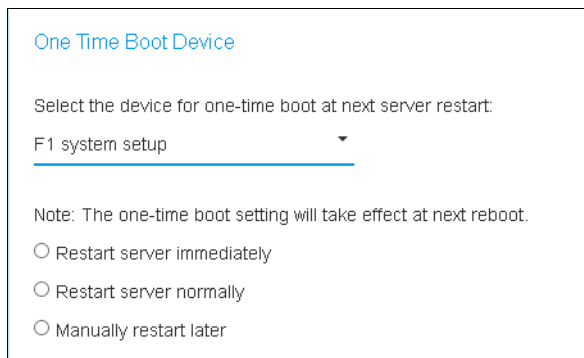

Figure 5-2 Reboot options from XCC
- d. Select how the server should be rebooted as seen in Figure 5-2.